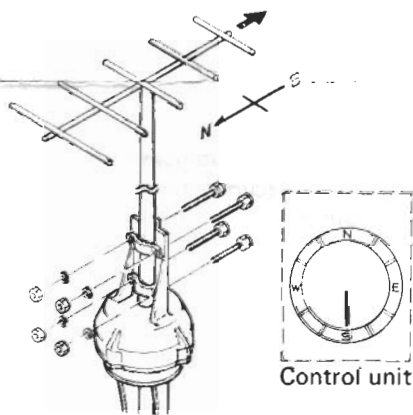

Figure 5
- 1. Mount Antenna pole to Drive unit (Figure 5)